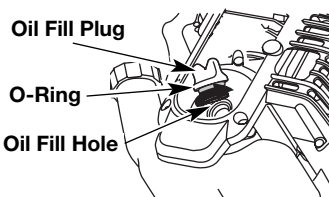

Fig. 11
3. Remove the oil fill plug from the crankcase (Fig. 11).